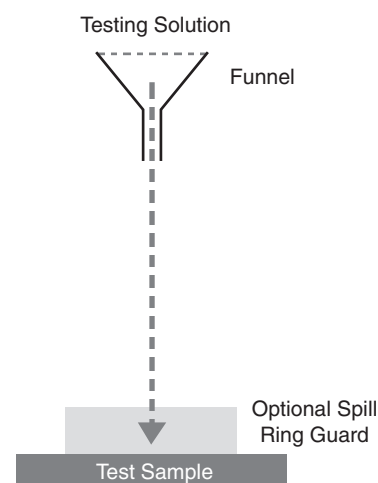

Fig. 1—Relative position of spillage equipment.
10.1 Position laboratory funnel with the aperture of funnel $100 \text{ cm} \pm 0.3 \text{ cm}$ (39.4 ± 0.125 in.) above a flat, level surface on which the test specimen will be placed (see Fig. 1).